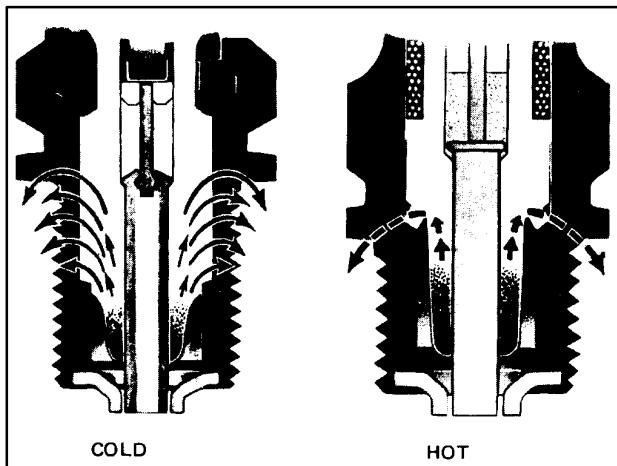

FIGURE 8-3. Hot and cold spark plugs.
(4) Fundamentally, an engine which runs hot requires a relatively cold spark plug, whereas an engine which runs cool requires a relatively hot spark plug. If a hot spark plug is installed in an engine which runs hot, the spark plug tip will be overheated and cause pre-ignition. If a cold spark plug is installed in an engine which runs cool, the tip of the spark plug will collect unburned carbon, causing fouling of the plug. The principal factors governing the heat range of aircraft spark plugs are:
(5) "Hot" plugs have a long insulator nose; thereby, creating a long heat transfer path, whereas "cold" plugs have a relatively short insulator to provide a rapid transfer of heat to the cylinder head. (See figure 8-3.)